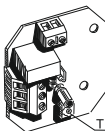

Fig. 5.1
**The fan with timer** options switches on when the voltage is supplied to clamp LT. After the voltage is disconnected the fan continues working during the time T, which is regulated from 2 till 30 minutes. The time T is regulated by turning the potentiometer clockwise to increase and anticlockwise to decrease the delay time (Fig. 5.1)